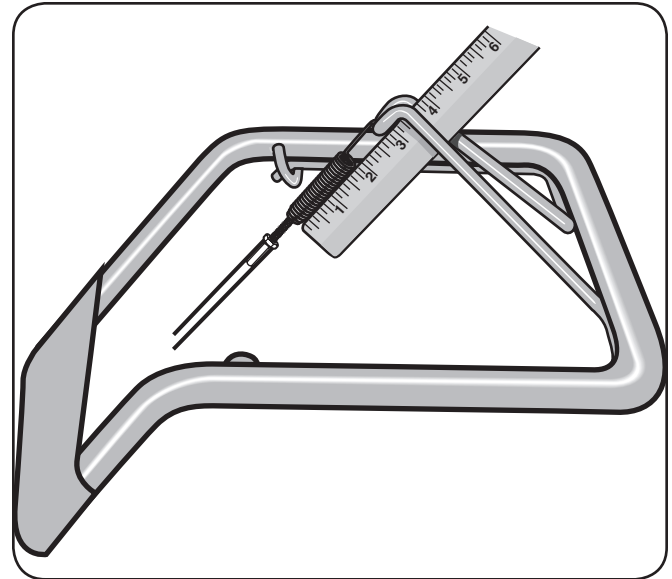

Figure 3-6
2. Thread the #10-24 hex nut halfway onto the screw which runs through the spring. See Inset Fig. 3-6.
- a. With the Forward Clutch Bail in an open (released) position, measure the length of the cable spring from the outermost coil to the outermost coil. See Fig. 3-6.
- b. Squeeze the Forward Clutch Bail against the handlebar (see Fig. 3-6) and re-measure the spring length. The belt tension is correct if this second measurement is between  $\frac{1}{16}$ " to  $\frac{3}{16}$ " longer than the first measurement. If so, turn the hex nut tightly against the cable adjuster while preventing the cable adjuster from turning.